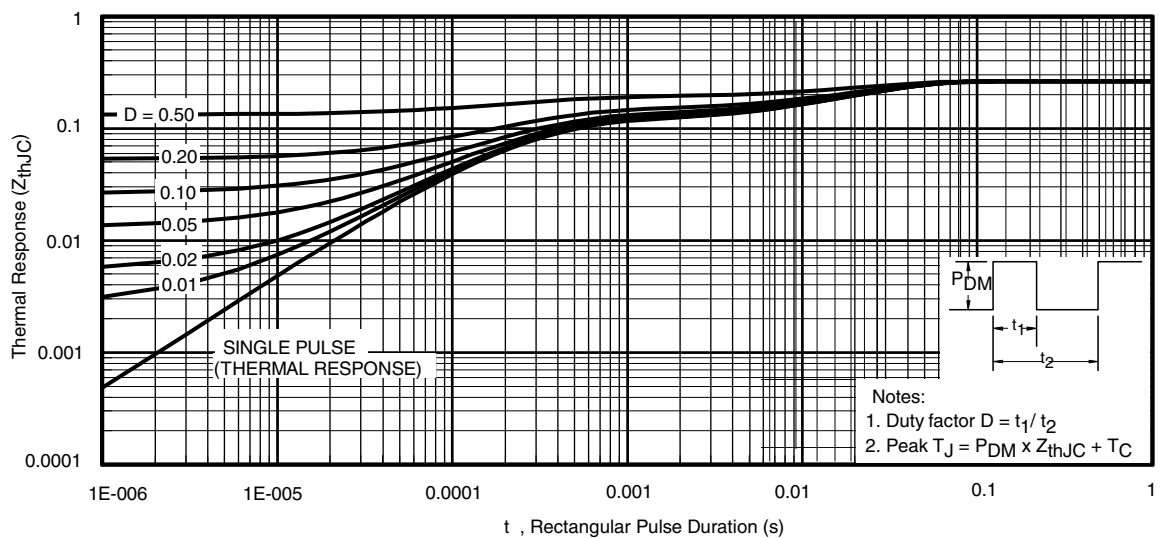

Fig. 12 - Maximum Effective Transient Thermal Impedance, Junction-to-Case
- Starting T_J = 25 °C, L = 1.7 mH, R_g = 25 Ω, I_{AS} = 26 A, dV/dt = 21 V/ns (see fig. 12).